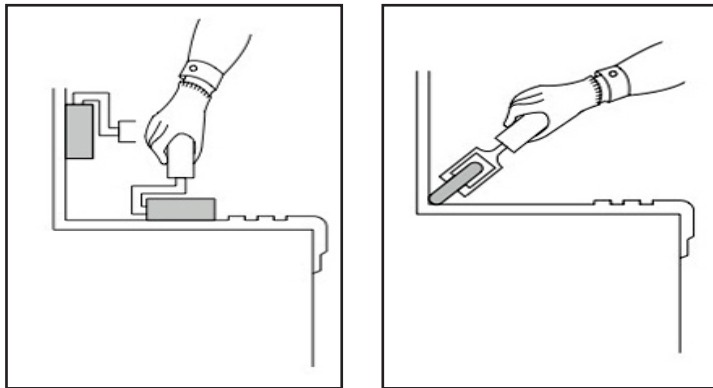

Fig. 6
- Immediately hand roll the stair tread, riser, nosing and the corner between riser and tread. Press the corner area carefully. See Fig. 6 & 7.